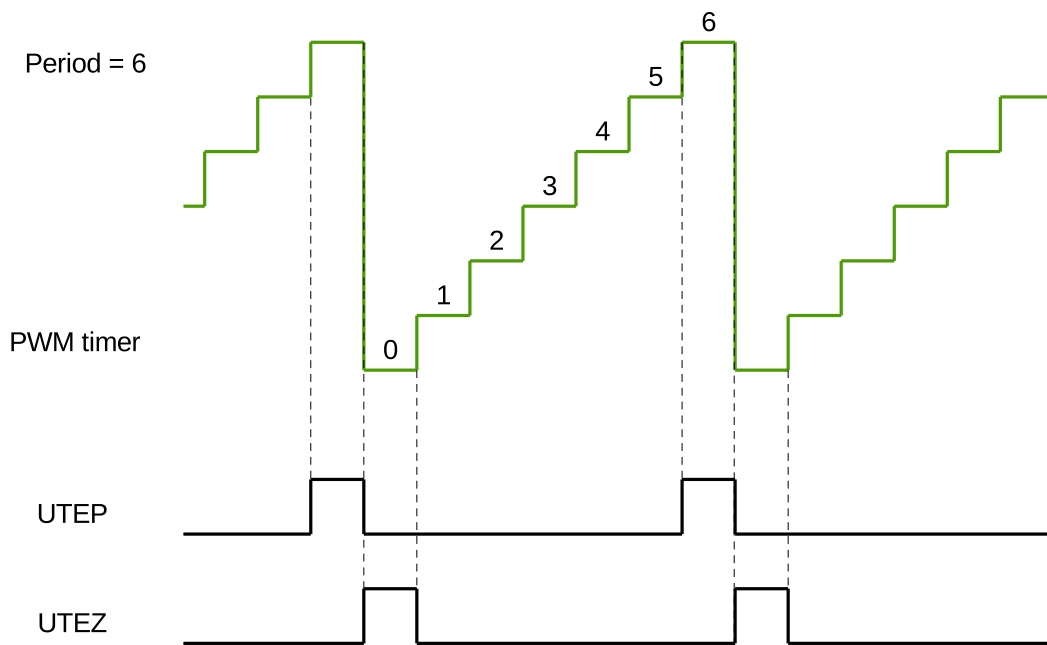

Figure 35-12. UTEP and UTEZ Generation in Count-Up Mode
Figures 35-12 to 35-14 show the timing waveforms of U/DTEP and U/DTEZ.
1. UTEP and UTEZ do not happen simultaneously. When the PWM timer is in count-up mode, UTEP will always happen one cycle earlier than UTEZ, as demonstrated in Figure 35-12, so their action on PWM signals will not interrupt each other. When the PWM timer is in count-up-down mode, UTEP will not occur.